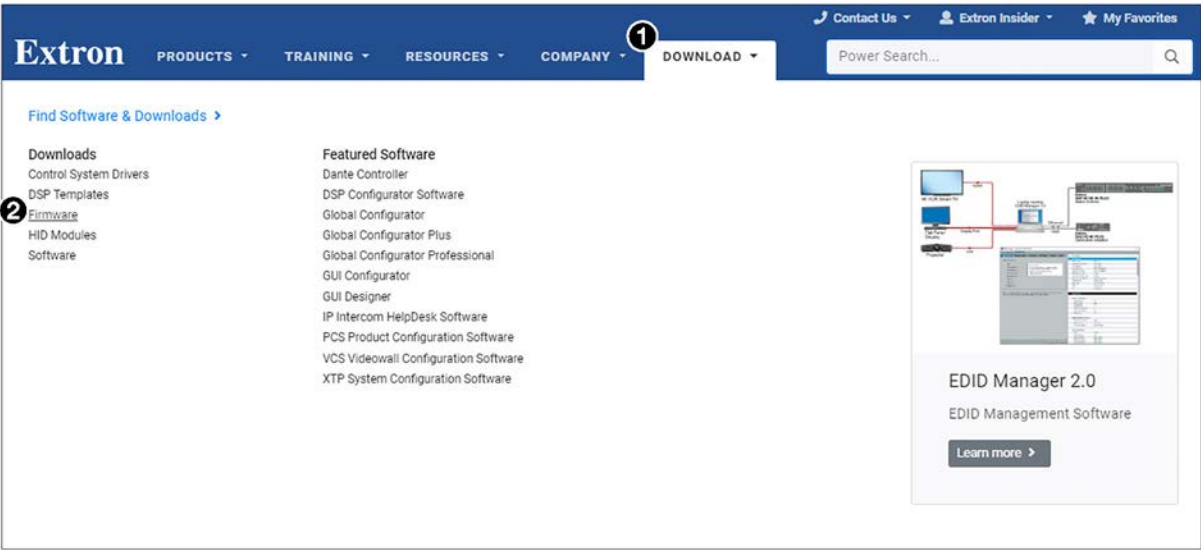

Figure 59. Downloading Firmware from the Extron Website
1. On the www.extron.com, click the **Download** tab (see figure 59, ①).
2. Click the **Firmware** link in the Downloads column (②).